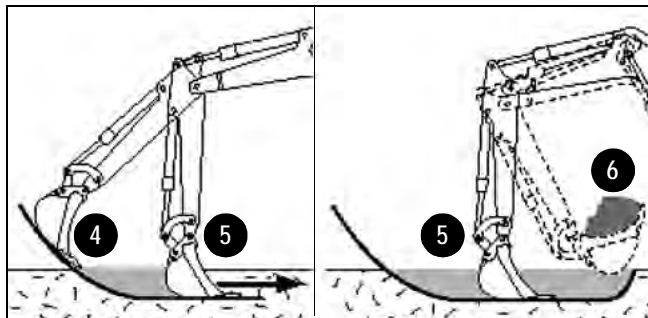

Figure 3-49 Proper Digging Technique
1. Lower the bucket into the ground (4, Figure 3-49).
2. After the bucket penetrates the ground, adjust it so its flat side is parallel to the ground (5, Figure 3-49).
- b. Extend the dipper arm cylinder so the bucket is tilted upward (6, Figure 3-49).